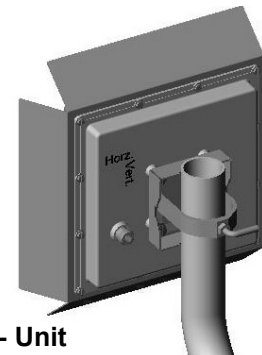

Figure 6 - Unit Mounted to Mast
- 3 Mount to Mast (Figure 6).** Slide unit with mast clamp over suitable mast (up to 2 inches) and secure with included L Bolt.